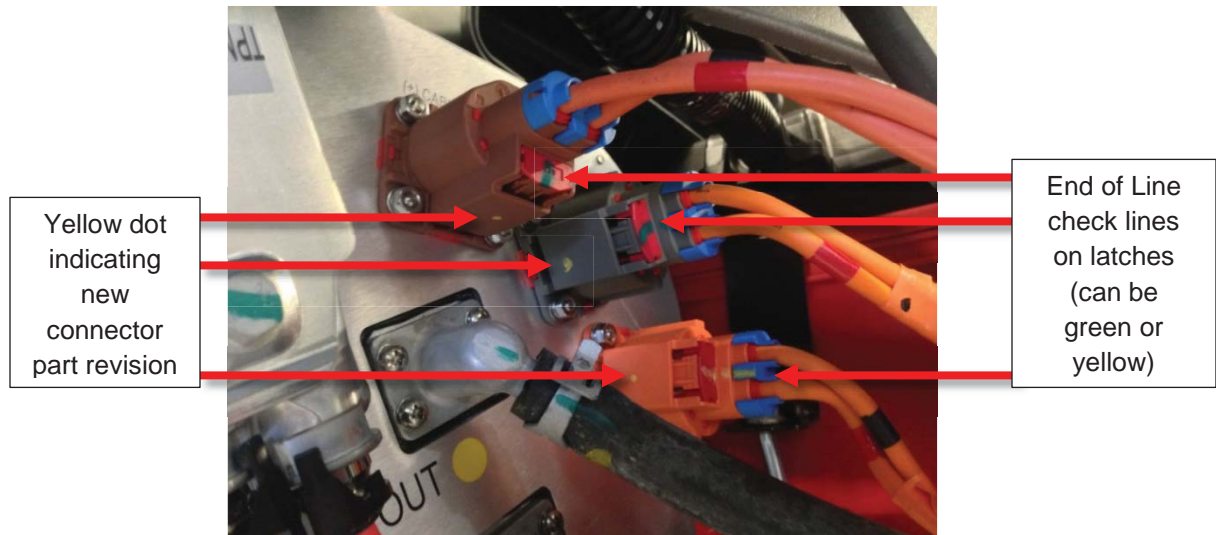

Figure 3 (New part revision of DCDC HVIL connectors)
NOTE: Assembly marks connectors with a green or yellow line during factory testing, which might obscure the dot if overdrawn. The yellow dot from the manufacturer is different from the Assembly mark (Figure 3).
- Service replaces any faulty connectors (Figure 3).